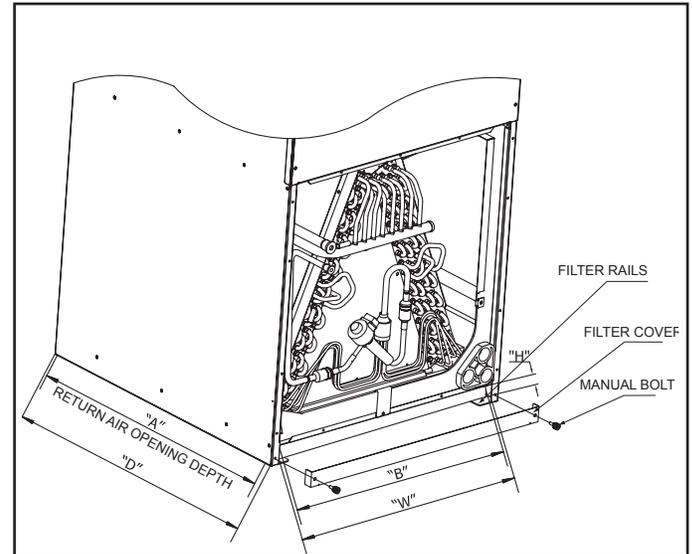

Figure 19. Air Filter Location
1. Remove screws, remove filter cabinet cover. See Figure 19.